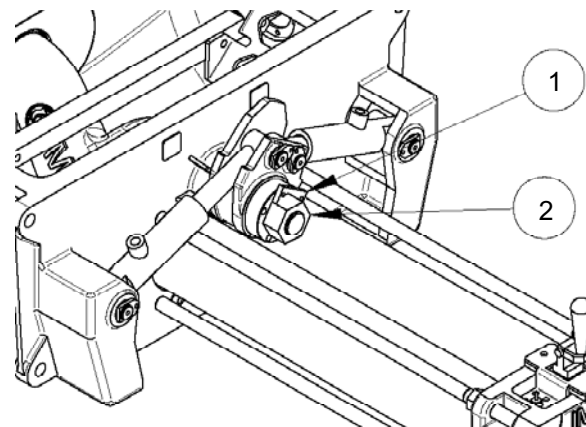

Fig. 30
- Remove the bracket (Fig. 30 Ref. 1) and then screw in the register nut (Fig. 30 Ref. 2) to recover the backlash.
- Now fit the nut bracket again (Fig. 30 Ref. 1) with its bolts.